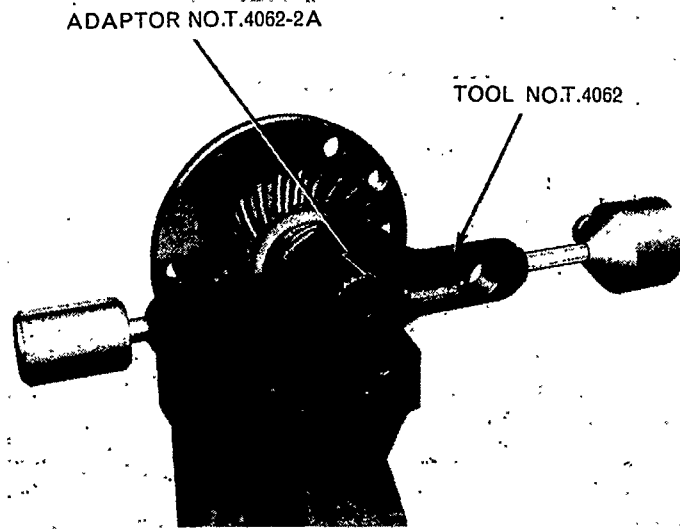
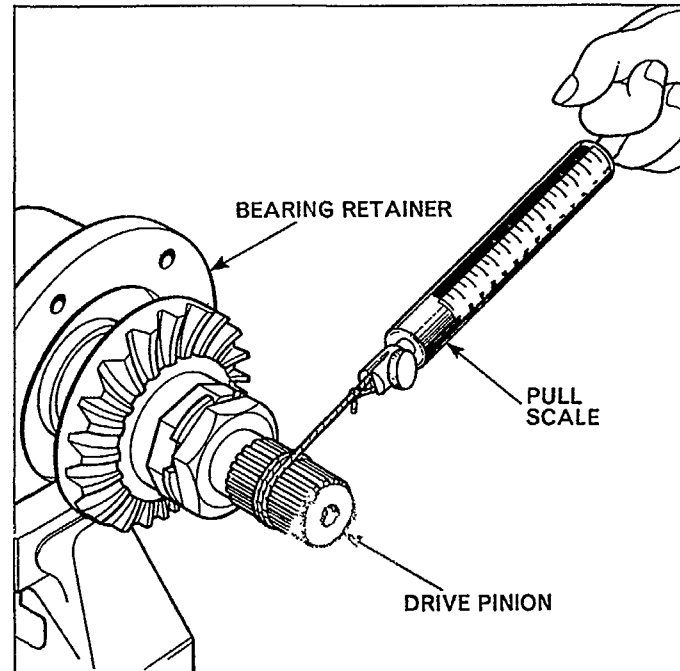

Figure 69
Figure 70
4. Using Tool No. T4094 or N-4634-A tighten the inner nut to the specified pre-load. (See Specification Section, Chapter 3.) Use Tool No. T4062 with adaptor T4062-2A to check the pre-load, Figure 69. If this tool is not available, a pull scale, used together with a piece of cord wrapped around the splines of the pinion shaft, Figure 70, can be used to give the specified pull. (See Specifications Section, Chapter 3.)